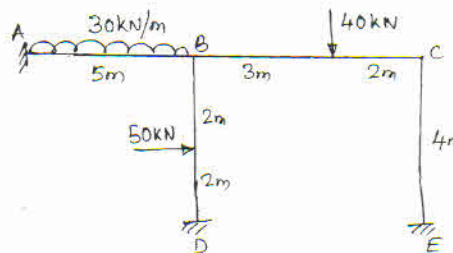

Fig Q3
- 3 Analyse the frame shown in Fig Q3. Using moment distribution method sketch BMD. Take EI constant throughout. (20 Marks)